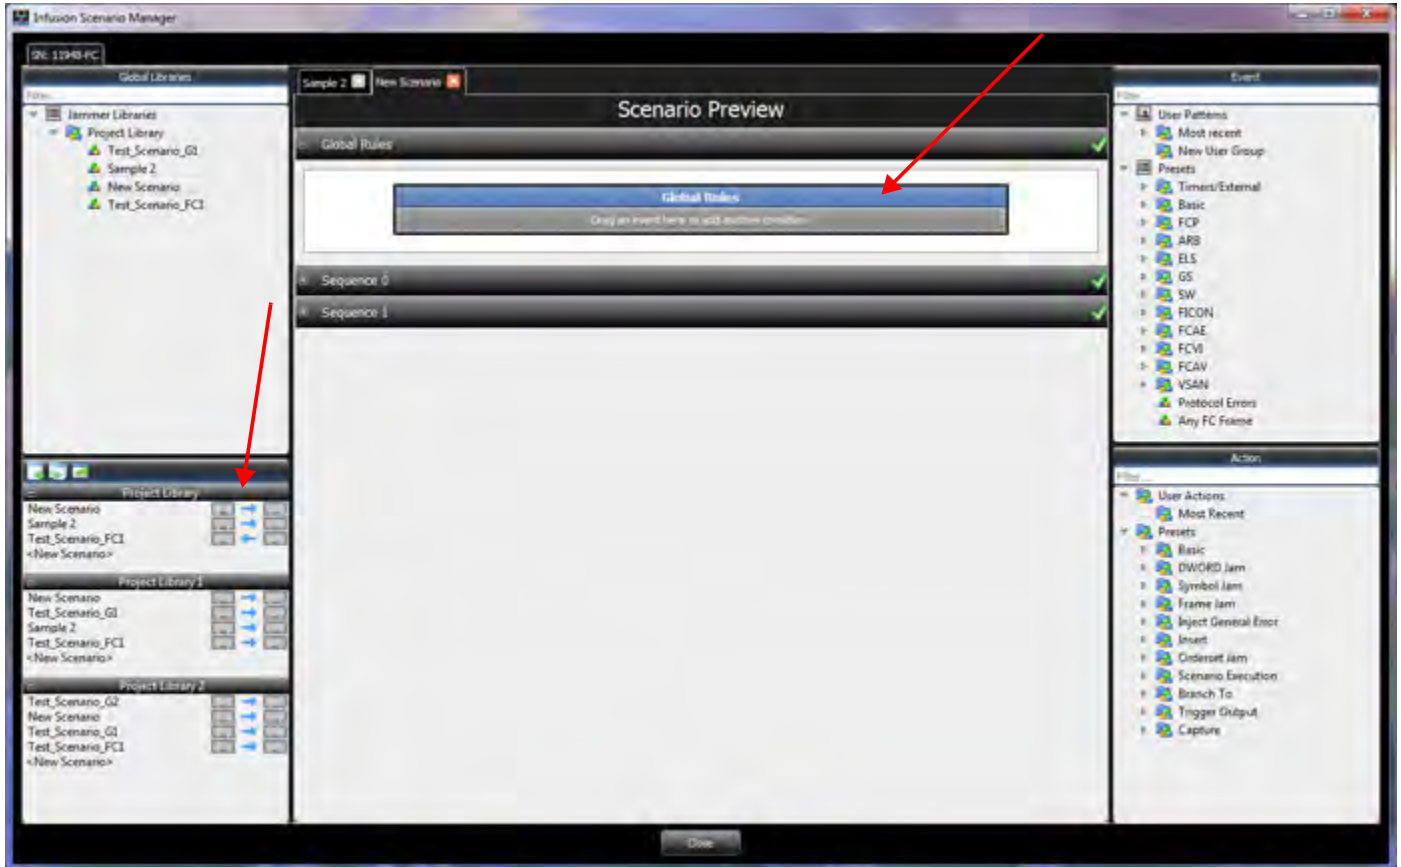

Figure 6.64: Global Rules Panel
2. In the Global Rules panel (see Figure 6.64).